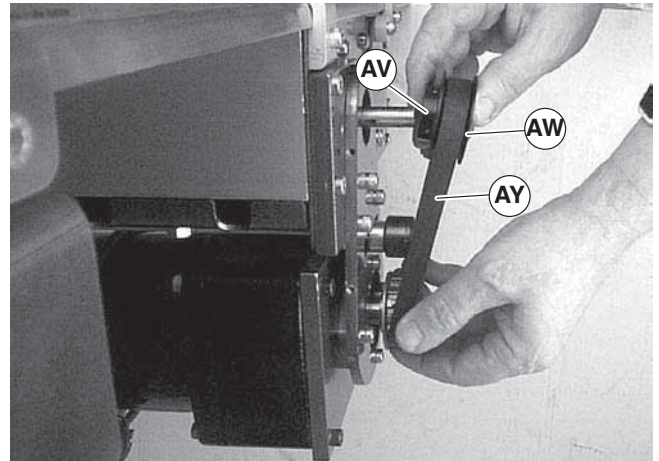

Figure 24
If the timing belt does not slide over the pulley flange, loosen the driven pulley set screws (Figure 24, item AV) and remove the pulley (AW) with the belt (AY).